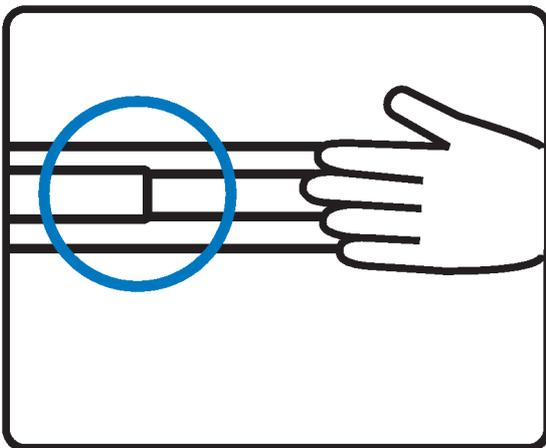

Figure 3.
- Push the LCD keyboard drawer into the rack. (shown in Figure 3).